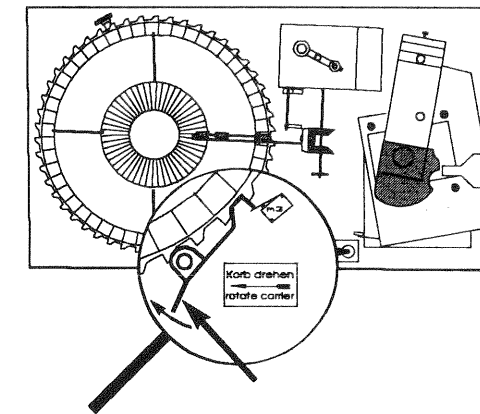

Fig. 4
Insert up to 50 or 100 CDs, depending on the compartments in the carrier. Start with 01. The "Label" must show always to the left, towards the next lowest number. To achieve the optimum position for loading, press in steps the lever "rotate carrier" ("Korb drehen"). (Fig. 4). If less than 50 (100) discs are used, the number of discs used has to be programmed in the service program service level 1, button 5 (ref. to chapt. II / i, page 7).